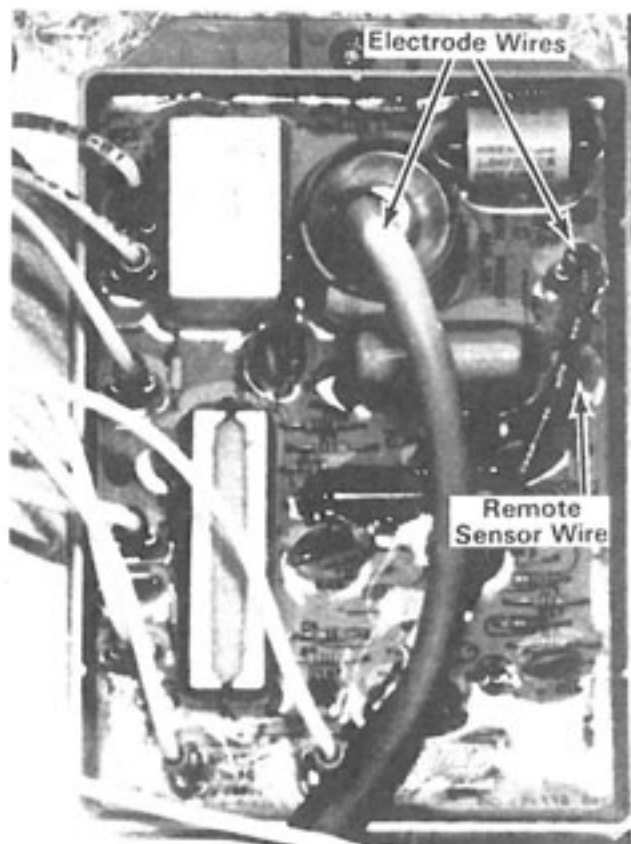

Figure 46 - Ignition Boards
- A. Flip the ignition switch OFF. Remove the electrode wires from terminals E-1 and E-2 on the ignition board, see Figure 46 and 47.